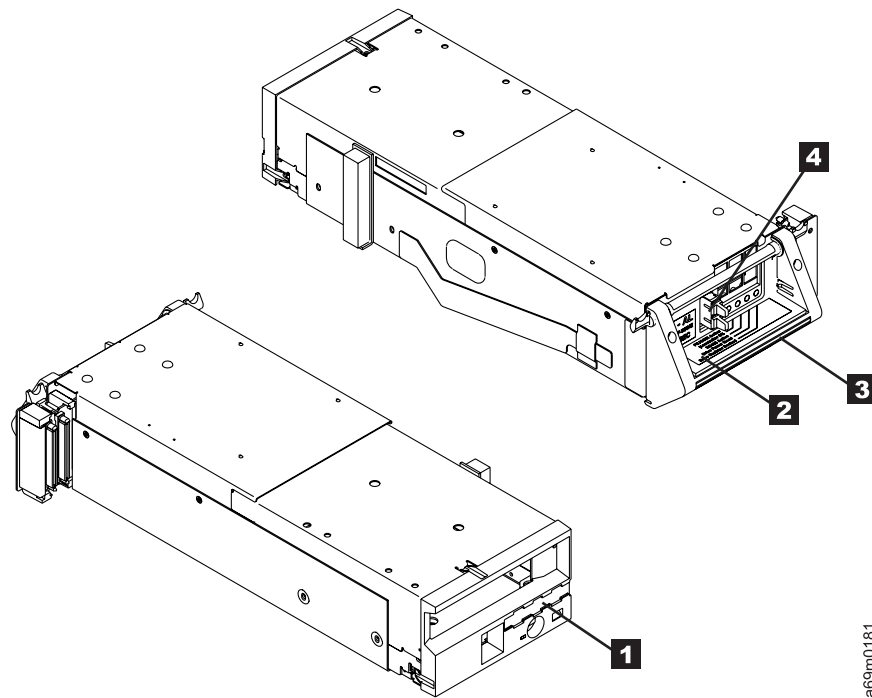

Figure 68. Removing and Replacing a Drive Canister Assembly - LTO Fibre Channel Hot Swap
5. Refer to Figure 68. Unplug the fibre cable.
- If a logical library label (see **4** in Figure 68 on page 337) is attached to the old drive, remove it from the old drive and attach it to the new drive.